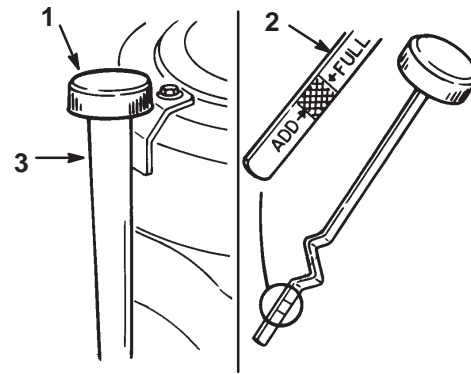

Figure 14
3. Clean around the oil dipstick (Fig. 14) so that dirt cannot fall into the filler hole and damage the engine.
4. Unscrew the oil dipstick and wipe the metal end clean (Fig. 14).
5. Screw the oil dipstick fully onto the filler tube (Fig. 14). Unscrew the dipstick again and look at the metal end. If the oil level is low, slowly pour only enough oil into the filler tube to raise the level to the Full mark on the dipstick.
6. Slowly pour approximately 80% of the specified amount of oil into the filler tube (Fig. 14). Check the oil level; refer to Checking the Oil Level, page 20, steps 4-5.